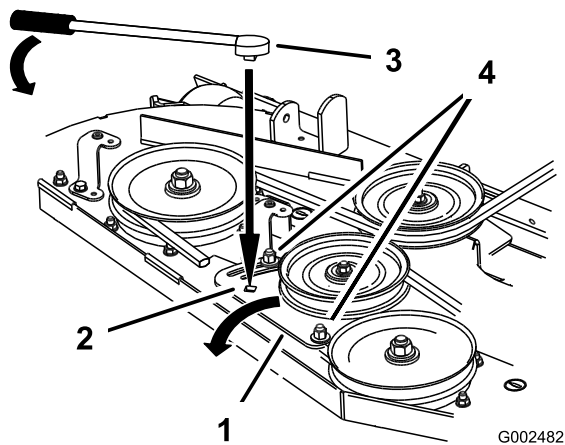

Figure 56
5. If adjustment is required, loosen the mower idler plate and adjust it (Figure 56).
6. Insert a ratchet or breaker bar into the square hole in the mower idler plate to adjust the tension (Figure 56).
7. To increase belt tension, rotate the mower idler plate until resistance is felt and rotation stops. Do not go past when it stops (Figure 56).
8. Tighten the idler plate bolts (Figure 56).
10. Adjust the belt tension and the idler plate, if necessary, and tighten all hardware securely (Figure 56).